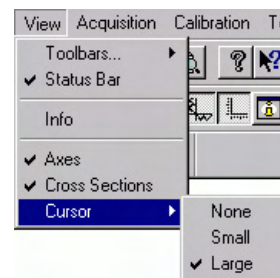

Figure 108. Selecting the Large Cursor
4. Click on the  (**Autoscale**) button at the bottom of the image window. Then select the large cursor by clicking on Cursor on the View menu and then on Large as shown in Figure 108.